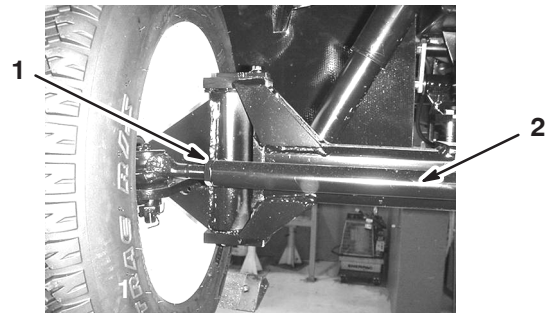

Figure 51
- If the measurement does not fall within the specified range, loosen the jam nuts at both ends of the tie rod (Fig. 51).